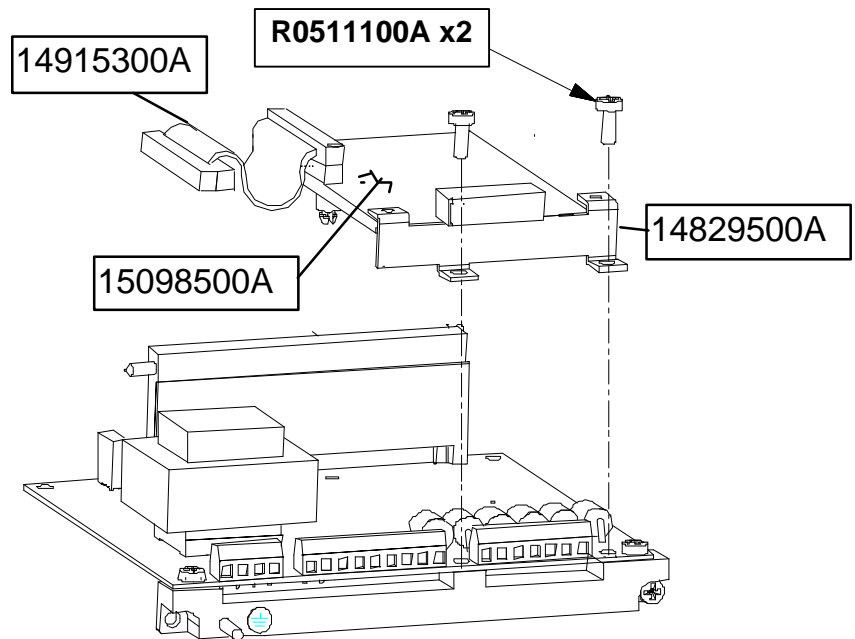

Figure 6-3 Allen-Bradley PCB Installation in Panel Mount Enclosure
6. Attach the Allen Bradley Option PCB to the Controller PCB with 2 screws (R0511100A) and 2 nuts (R0519600A) (Figure 6-3).